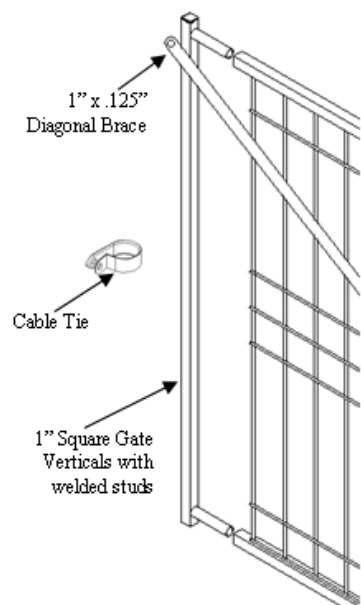

FIGURE 2
2. **For gate kits** the gate opening should be determined before setting posts. Openings are computed by adding the actual section width plus $2\frac{1}{4}$ " for gate verticals, plus allowances for hinges and latches. Jerith's standard hardware will add another 4" (2" for hinges, 2" for latch) to the opening. If other hardware is used, consult instructions for hinge and latch allowances. Gate kits are assembled by inserting the stubs welded onto the 1" square gate verticals into the top and bottom rails and fastening with two self-drilling screws at each corner (see figure 2). Use cable ties to secure wire verticals to the uprights. Screw diagonal brace (provided) to the gate vertical near the top end of hinge side of gate, cut to proper length, and then drill $\frac{1}{4}$ " hole, cold galv, and secure with tek screw provided. Gate is complete.